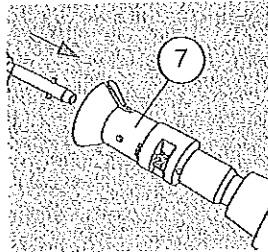

Fig. 2
- Prior to connection with the conductor, the spindle of the connecting part must be locked into the coupling (7) on the earthing rod and, if necessary, secured against unintentional disconnection (see Fig. 2). Verify again that all connecting parts are locked in securely or otherwise fixed immediately prior to use!